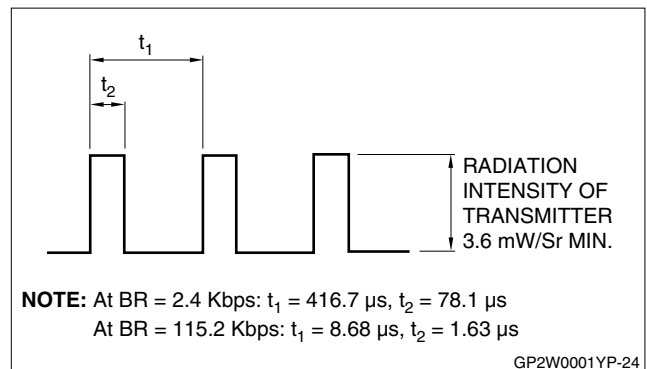
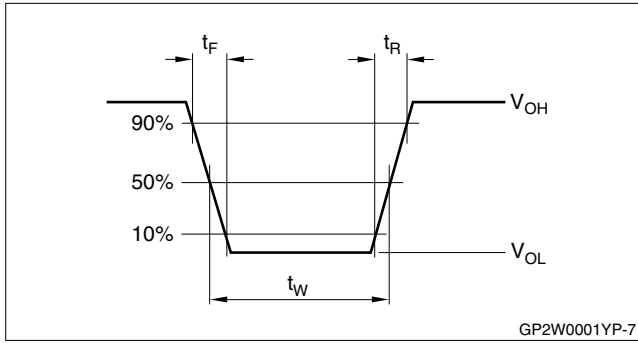
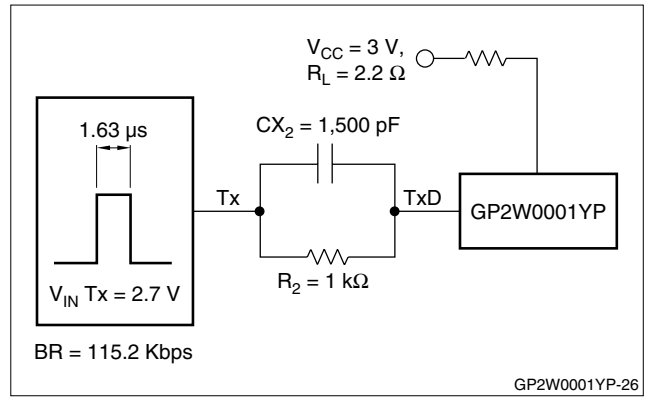

Figure 7. Detector Input Signal Waveform
Figure 8. Output Waveform Specification
Figure 9. Recommended Emitter Circuit
3. See Figure 7, Figure 8, and Figure 9